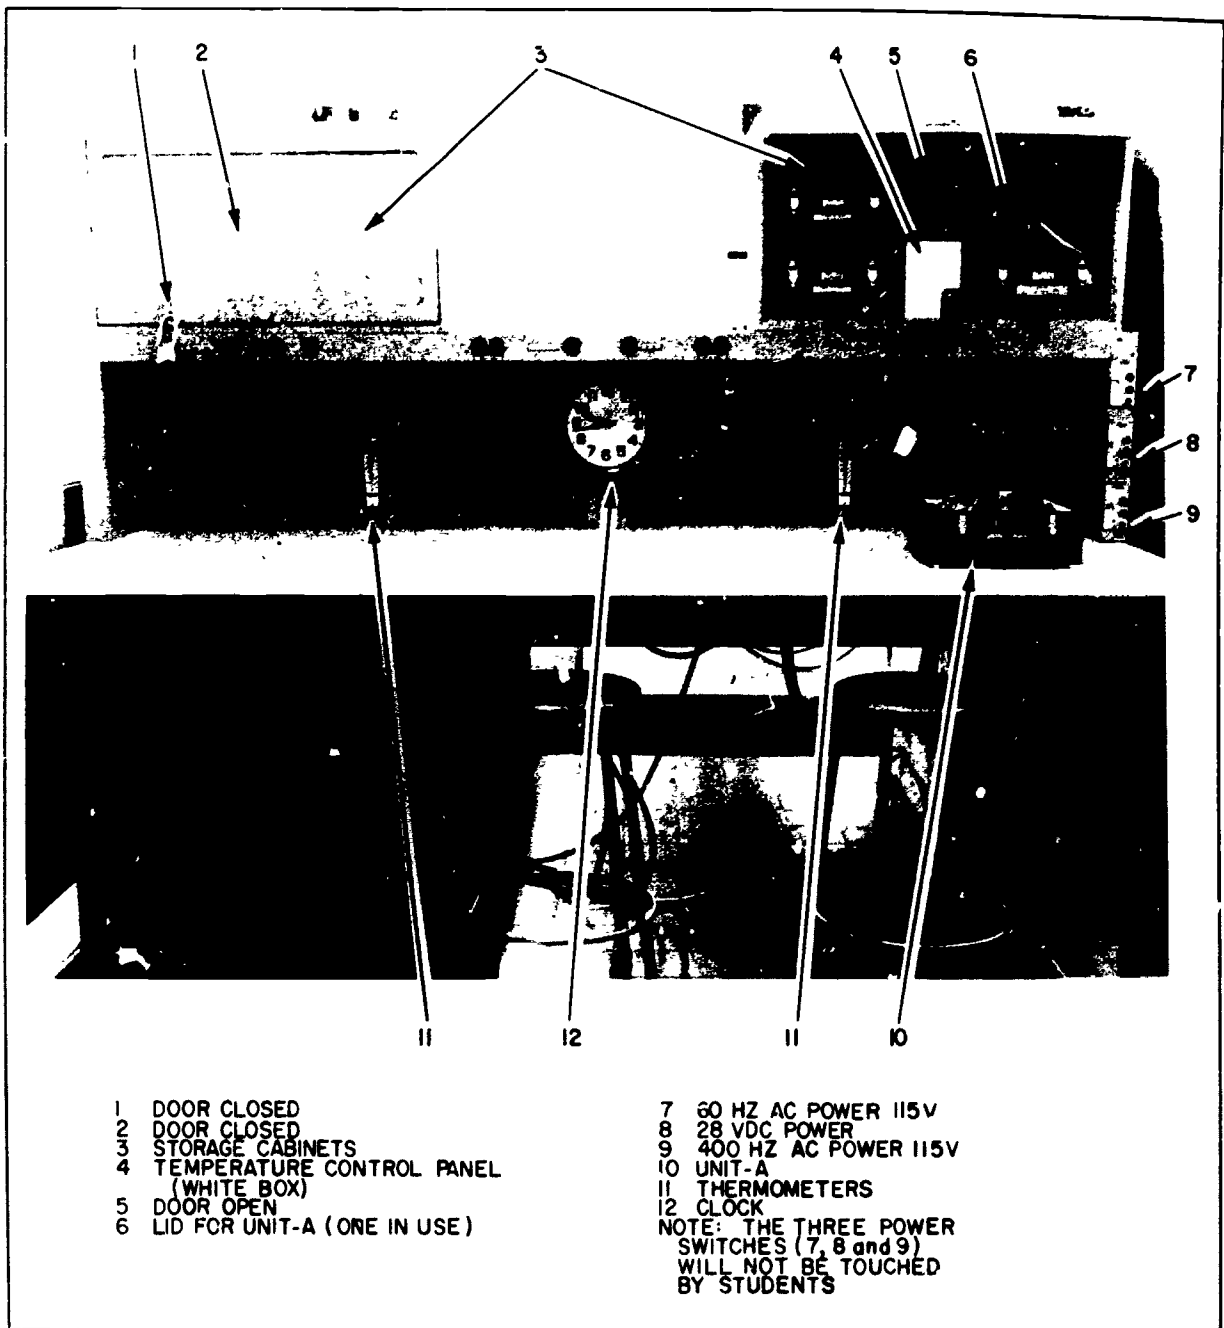

Figure 1. Power Bench with UNIT-A.
12. Insure the temperature control panel is in its proper storage area, see figure 1.